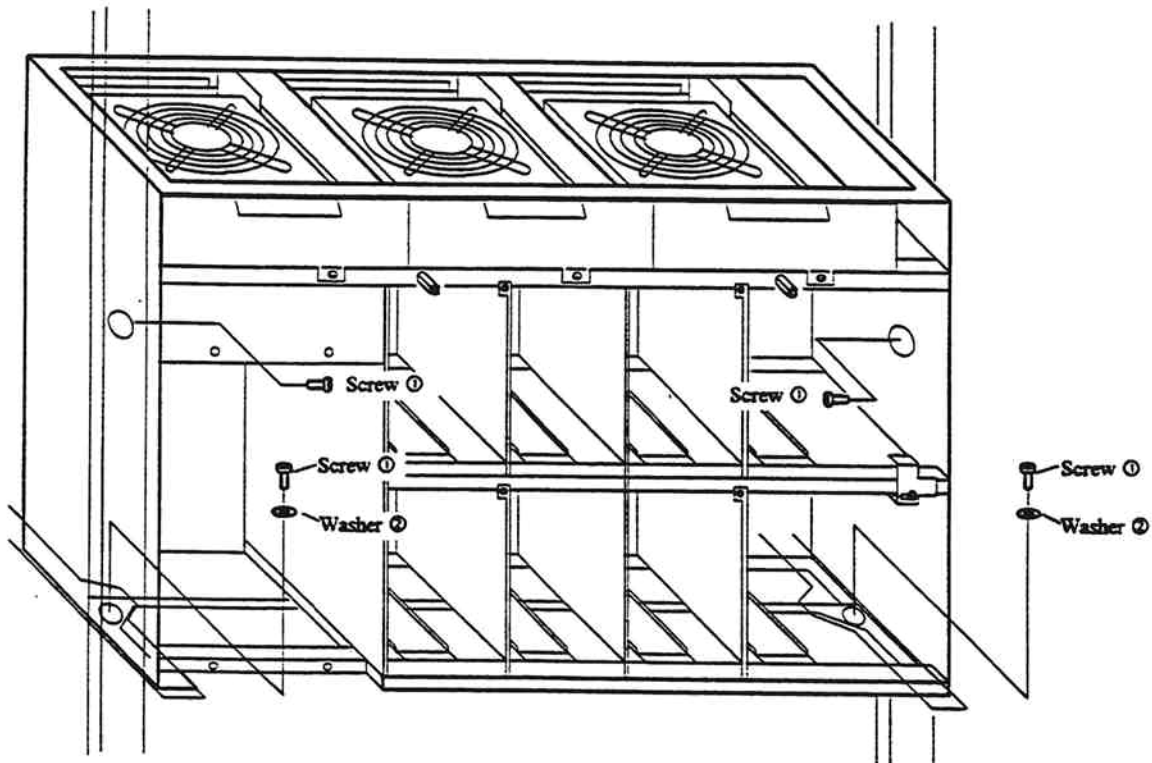

Fig. 3.3.9.3-7 Installation of the HDU Box
a. Connect the DKUMN cables ① referring to Table 3.3.9.3-1 and Fig. 3.3.9.3-8.